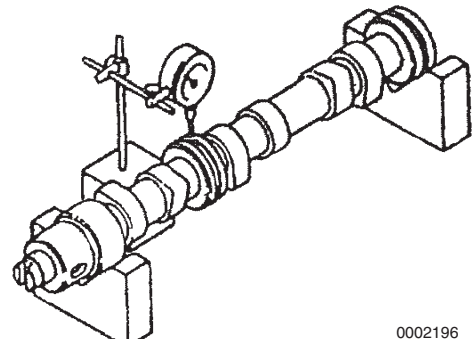

Figure 4-2-77
1. Use V-blocks and a dial indicator to check camshaft bend (**Figure 4-2-77**). Place the indicator on the center bearing journal.